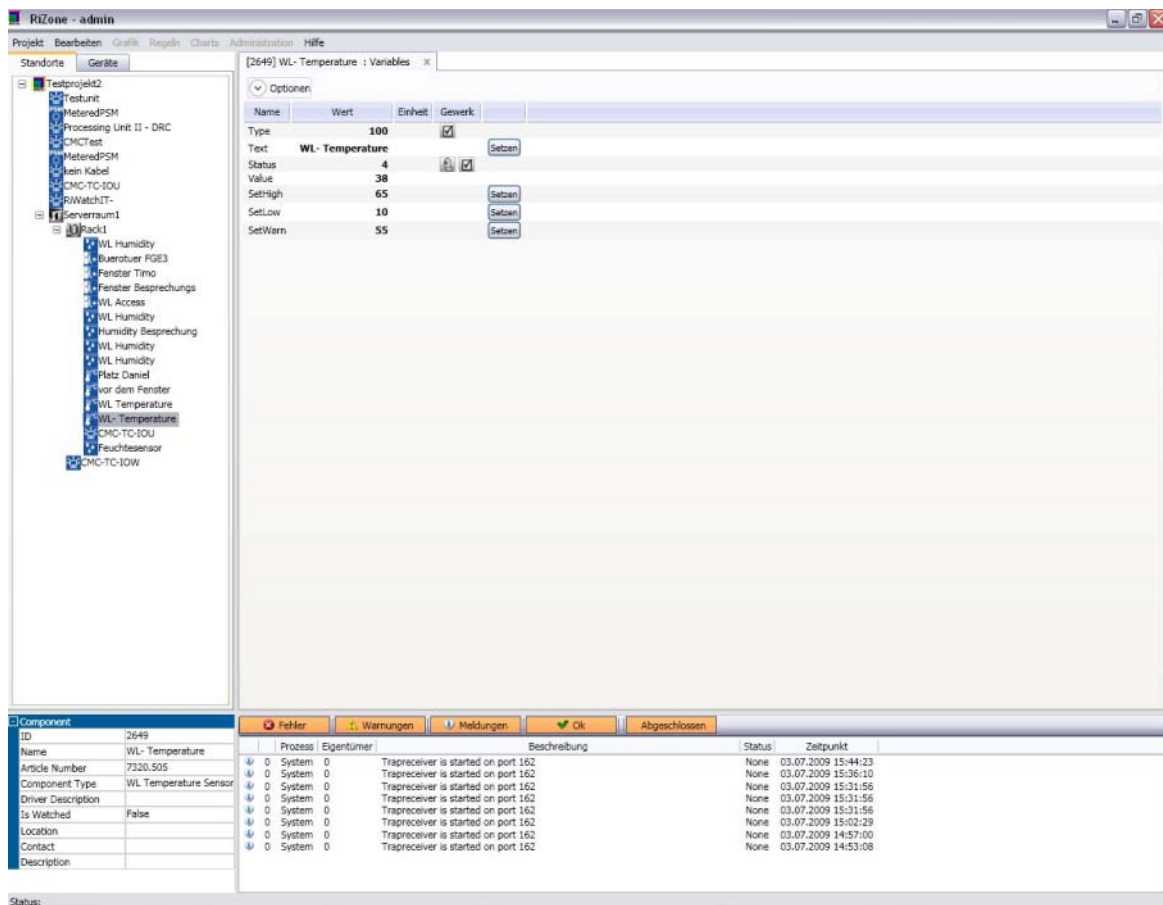

Fig. 18 Output values in the started project
- The sensor variables will now be listed in the View window (right-hand side). All acquired values (in Fig. 18, the temperature) and the settings (SetHigh, SetLow, SetWarn) will be output.